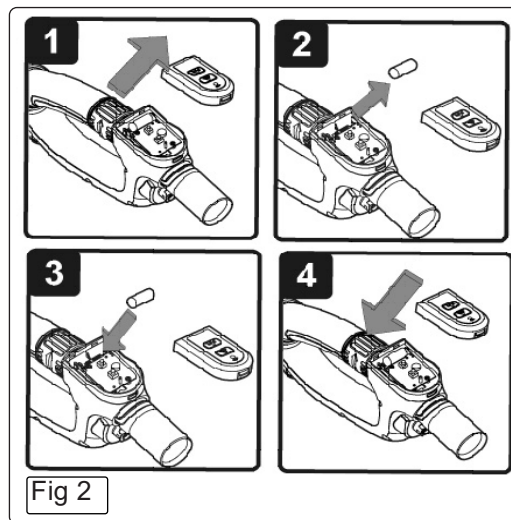

Fig 2
10.3. REPLACING REMOTE CONTROL BATTERY. (See fig.2)